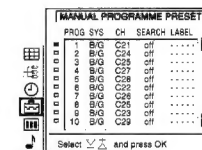

Fig. 22
- Select »Manual Programme Preset« with  $\Delta$  or  $\nabla$  and press OK. The MANUAL PROGRAMME PRESET menu appears. (See Fig. 22.)